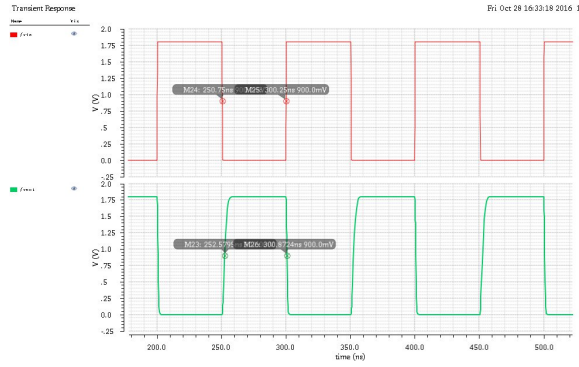

Fig. 8. Transient analysis of V_{OUT} and V_{pulse}
12) Transient analysis of V_{OUT} and V_{pulse} shown in Fig 8.
13) Calculate the propagation delay τ_{pd} from the Fig 8.